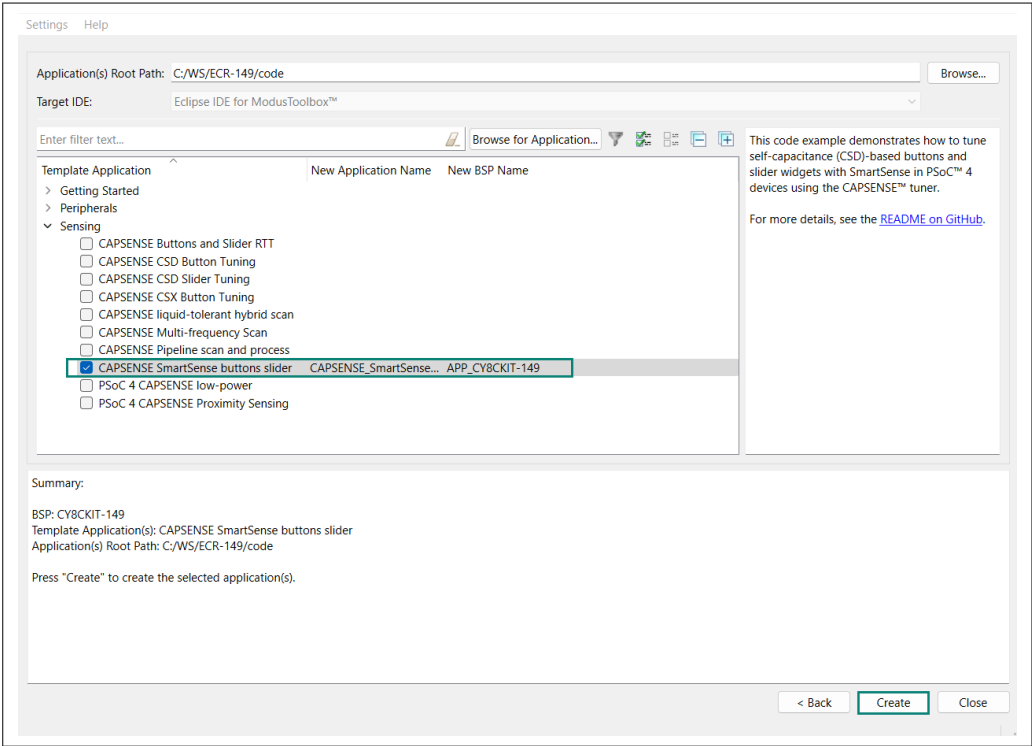

Figure 13 Creating a new application: Select Application
- c. Select the required application and click **Create**, as shown in Figure 13. The right pane will display the code example description and the link to view the README file on GitHub.